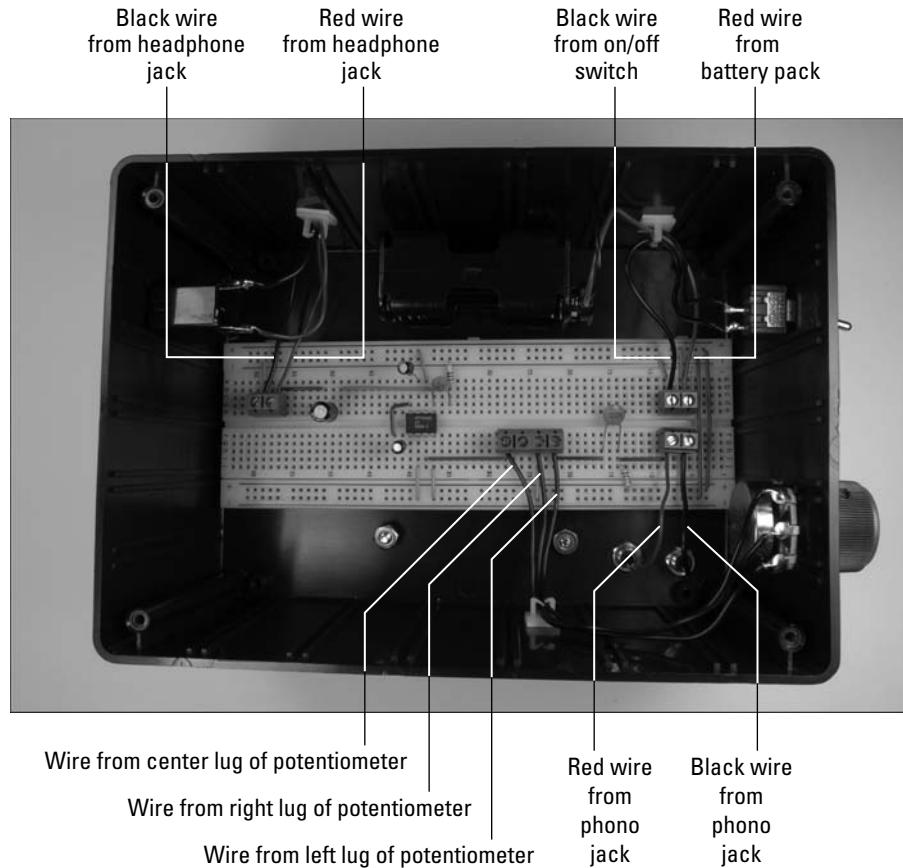

Figure 6-18:
3. Insert the wires from the headphone jack, potentiometer, phono jacks, battery pack, and the on/off switch to the terminal blocks on the breadboard, as shown in Figure 6-18.